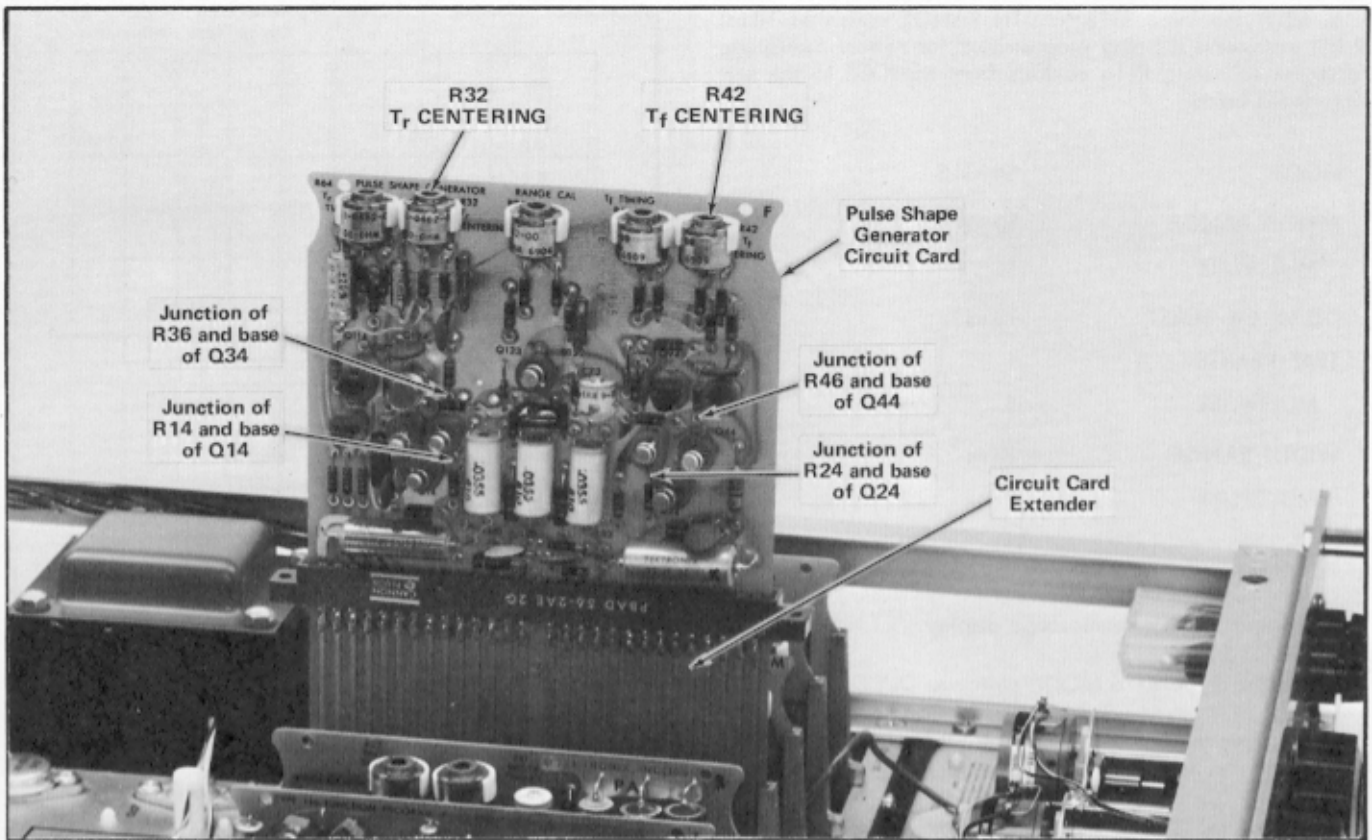

Fig. 6-5. Location of test points and adjustments for setting risetime centering and falltime centering.
f. Extend the Pulse Shape Generator circuit card on the circuit card extender as shown in Figure 6-5. Turn on the Type R116.
- j. Connect the negative lead of the DC voltmeter to the junction of R14 and the base of Q14 on the extended Pulse Shape Generator circuit card (see Fig. 6-5) and connect the positive lead to the junction of R16 and the base of Q34.
- l. ADJUST—R32, the T_r CENTERING adjustment on the Pulse Shape Generator circuit card (see Fig. 6-5), if the voltage is not correct.
- m. Connect the negative lead of the DC voltmeter to the junction of R24 and the base of Q24 (see Fig. 6-5) and connect the positive lead to the junction of R46 and the base of Q44.
- o. ADJUST—R42, the T_f CENTERING adjustment on the Pulse Shape Generator circuit card (see Fig. 6-5), if the voltage is not correct.
c. Turn R22, the WIDTH TRIG SENS adjustment on the Width Generator circuit card (see Fig. 6-5), fully clockwise, then counterclockwise until one stable pulse appears on the test oscilloscope CRT. Note the position of R22.
e. Reset the Type R116 MODE switch to DOUBLE. Two pulses should appear on the test oscilloscope CRT. If not, adjust R22, the DELAY TRIG SENS adjustment on the Delay Generator circuit card (see Fig. 6-5) to obtain two pulses. (It should be noted that both the Width Generator and Delay Generator circuit cards have R22 adjustments.)